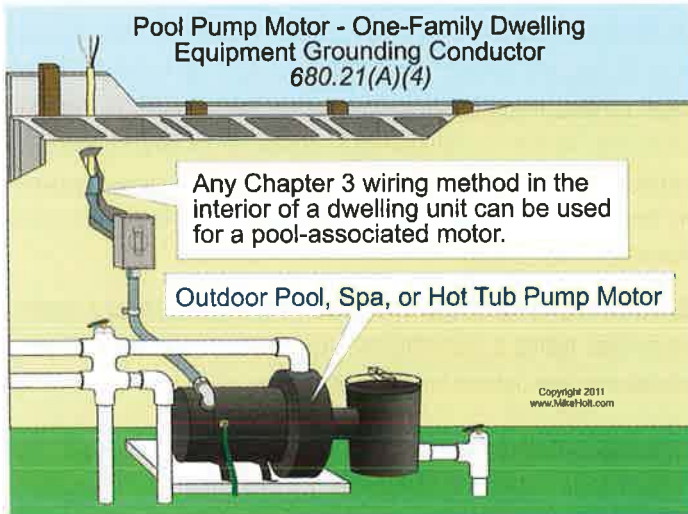

Figure 680-11
(4) One-Family Dwelling. In the interior of a dwelling unit or accessory building associated with a dwelling unit, any Chapter 3 wiring method is permitted. If branch-circuit conductors are installed in a raceway, the wiring method must contain an insulated copper equipment grounding conductor as required by 680.21(A)(1). If a cable assembly is used, the circuit equipment grounding conductor can be uninsulated. **Figure 680-11**